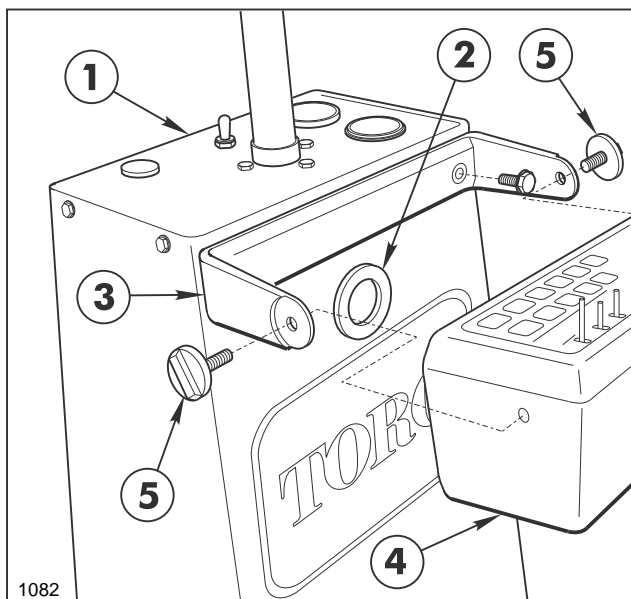

FIG. 1
1. Remove four (4) 1/4" x 5/8" washer hd cap screws to remove the Rear Panel from the Steering Console.
2. Remove the knock-out plug in the front of the Steering Console and insert the large grommet. See FIG. 1.
3. Remove the “U”-shaped Mounting Bracket from the Console Computer and secure the Mounting Bracket to the Steering Console with two (2) 1/4" x 3/4" washer hd. screws as shown in FIG. 1.
4. Reinstall the Console Computer within the Bracket and secure with the two (2) Mounting Knobs.